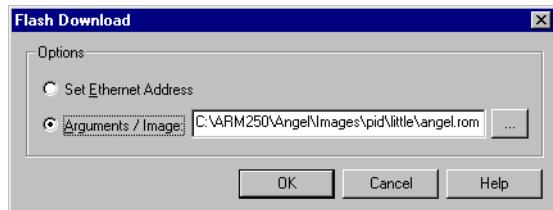

Figure 8-1 Flash Download dialog
1. Select **Flash Download...** from the **File** menu. The Flash Download dialog is displayed (Figure 8-1).